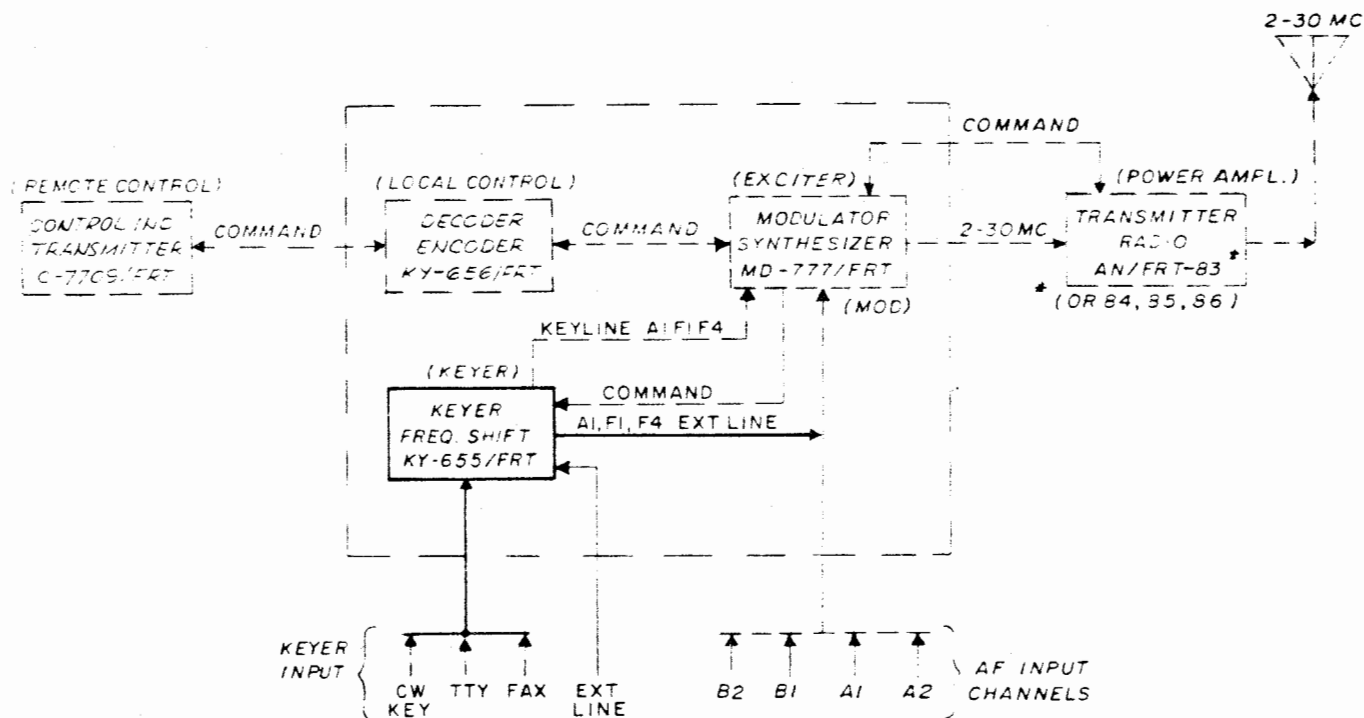

Figure 4-1. System Basic Block Diagram
a. GENERAL. - The keyer, figure 4-1, accepts inputs of cw (key), tty, or fax/analog signals at speeds up to 400 bauds. For cw on-off keying, the keyer generates a 1000-cycle tone on key down. For tty and fax keying, the keyer generates frequency shift tones about